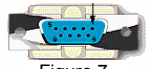

Figure 7
- Step 2** Route the female connector (DB9F – see Figure 7) to the driver compartment and connect to the serial port located on the rear of the mobile computer.